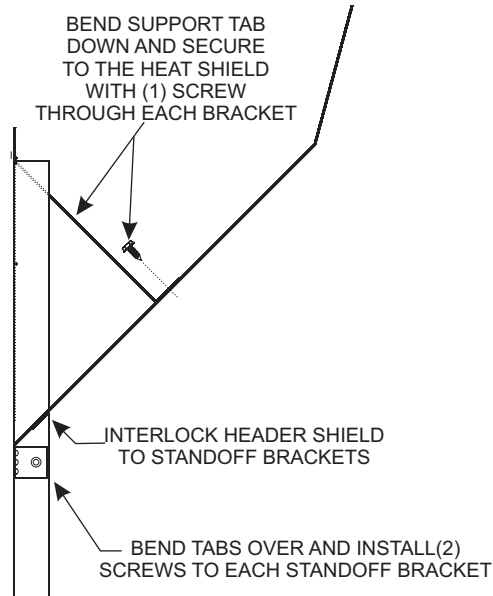

Figure 25
1. The two Header Shield halves and (4) Top Standoffs are packaged together and shipped with the fireplace. Pre-assemble each of the Header Shield halves to two of the Top Standoff brackets, before installing to the top of the fireplace and framing header. **See Figure 25.**